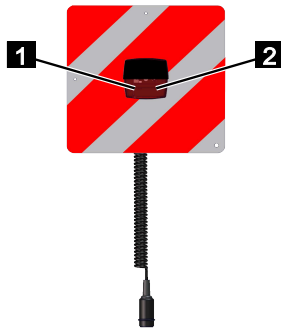

Fig. 263
- Brake light 12V//21W (Fig.263/1)
- Dipped beam 12V/10W (Fig.263/2)